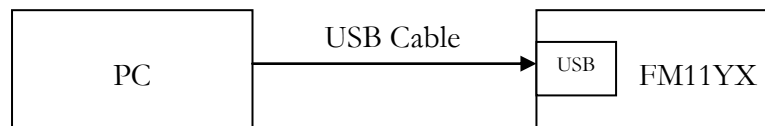

Figure 6 Connect FM11YX to PC and configure
2. Disconnect ALL-CAN300 from FM11YX, and connect PC USB cable to FM11YX Device (Figure 6). It is very important not to disconnect FM11YX from power source, because then all CAN data will be lost.